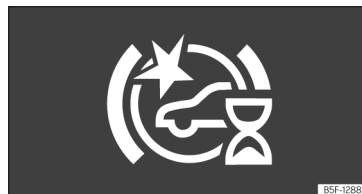

Fig. 168 On the instrument panel display: initial system self-calibration indication.
- In the first few instants of driving after switching on the ignition, due to the system's initial auto-calibration. During this phase, the instrument panel screen will display the following indication»» **Fig. 168**.
the ignition, the Front Assist may not be available for a short period of time while the system starts. During this phase, the instrument panel screen will display the following indication » **Fig. 168**.